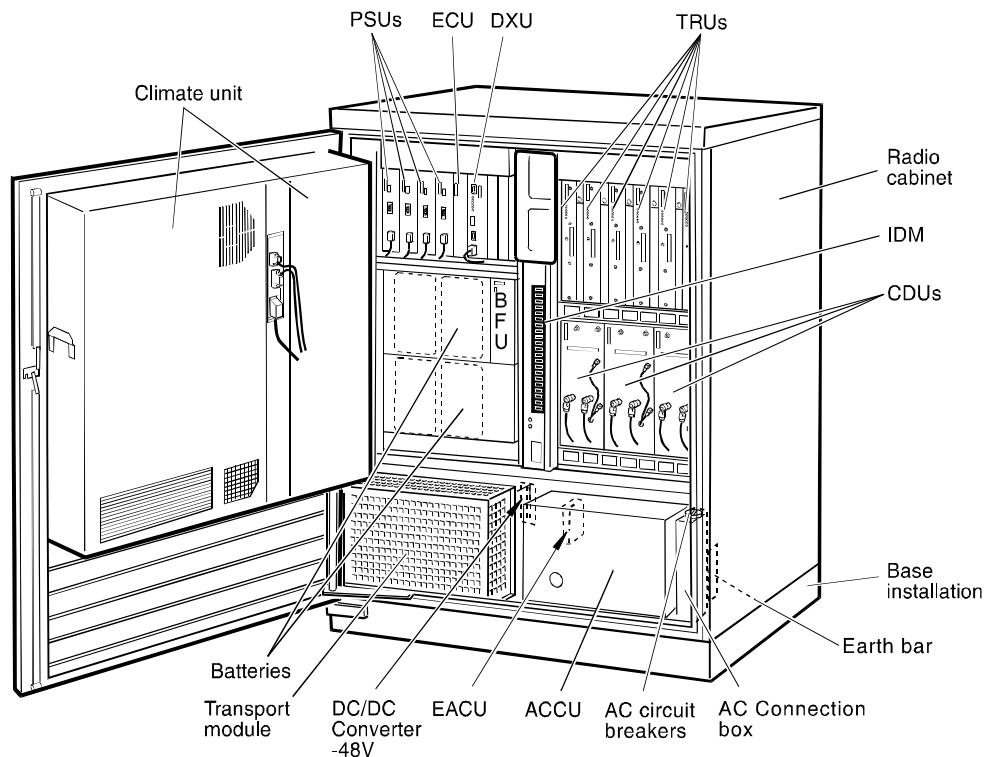

Figure 2-3 The improved RBS 2102
The RBS 2102 exists in two different versions. The “old” is shown in the top picture. The new improved is shown in figure 2-3. The main difference is that the new improved RBS 2102 does not have a mounting base. All units are mounted in the same climate protected cabinet otherwise they work in the same way and have the same configuration possibilities.
- The RBS cabinet houses up to 6 TRUs plus common equipment needed for serving the cell configuration, see fig 2-3.
- Cable entries for antenna feeders, transmission cables, and mains power, are concentrated on the bottom of the cabinet. The transmission equipment can be housed in the Transport Module (TM) space.